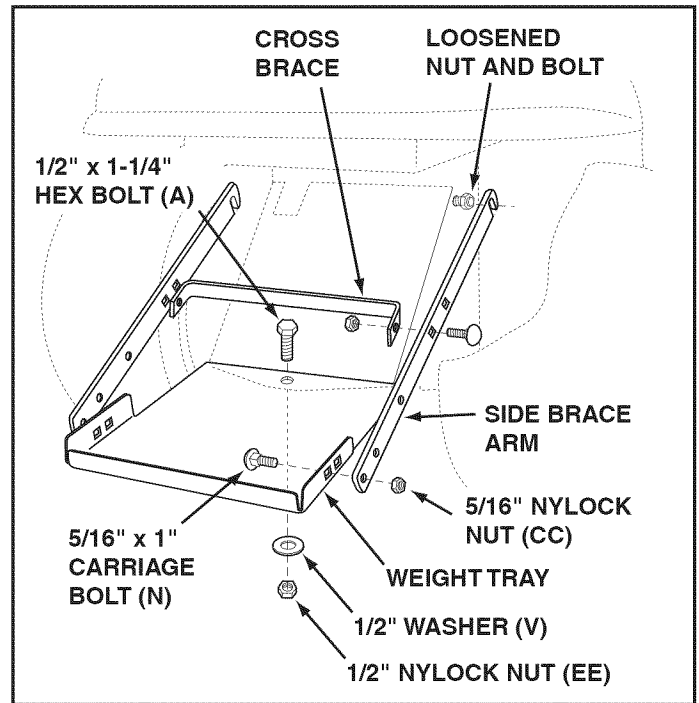

FIGURE 21
STEP 21: (SEE FIGURE 21)
- Fasten the weight tray to the drawbar using a 1/2" x 1-1/4" hex bolt (A), a 1/2" washer (V) and a 1/2" nylock nut (EE). **Do not tighten yet.**
- Fasten the weight tray to the side brace arms using two 5/16" x 1" carriage bolts (N) and two 5/16" nylock nuts (CC). **Do not tighten yet.**
- Fasten the cross brace to the side brace arms using two 5/16" x 1" carriage bolts (N) and two 5/16" nylock nuts (CC). **Tighten all loose bolts at this time.**